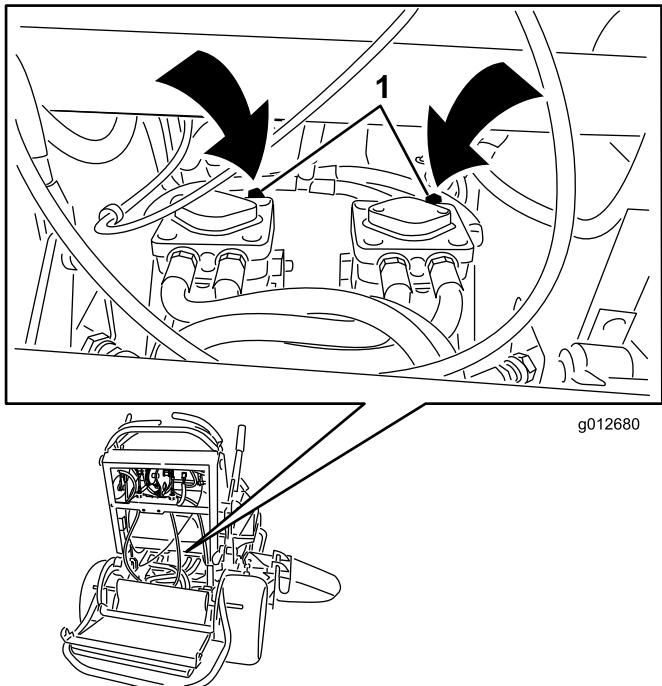

Figure 23
3. Open the by-pass valve on both pumps by turning them counter clockwise 1 to 2 turns. This allows hydraulic fluid to by-pass the pumps and the wheels to turn (Figure 23).